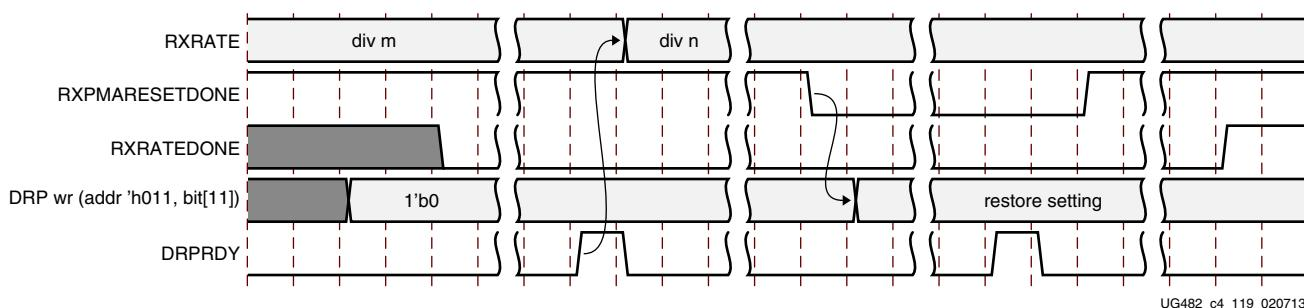

Figure 4-19: RXRATE change example
When users want to change the divider D setting via RXRATE, the steps in Figure 4-19 should be performed:
Notes relevant to Figure 4-19:
2. The sequence of events in Figure 4-19 is not drawn to scale.